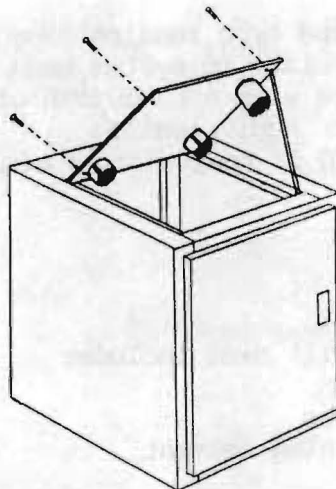

Figure 4-1, Transport Position for Tension Adjustment
2. If adjustment is required, unplug the head connector on the record bay (below the transport—slaves only). The transport must then be tilted out of the cabinet as illustrated in figure 4-1. Use a wooden or metal rod about 12 to 14 inches in length to prop the deck open.
7. Remove the prop, re-install the head connector, lower the transport into its normal position, and install the four securing screws (Figure 4-1).